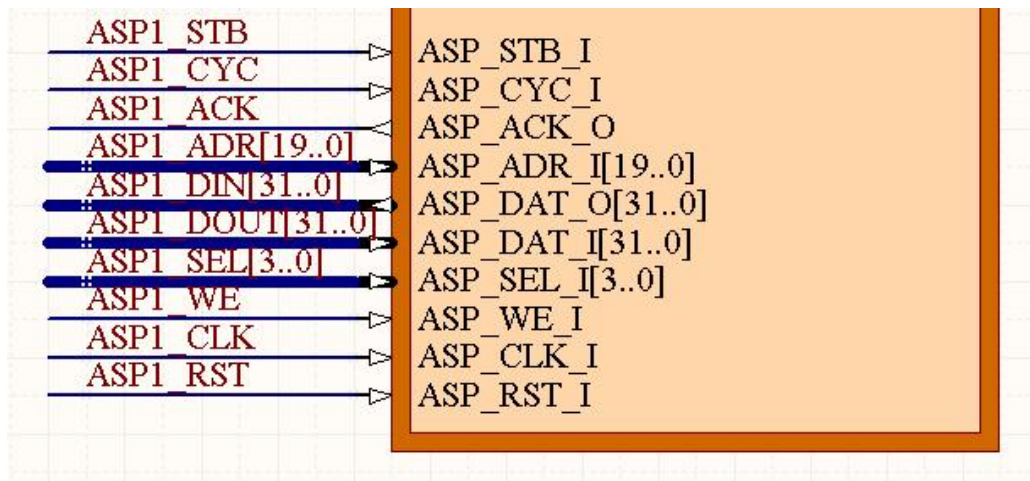
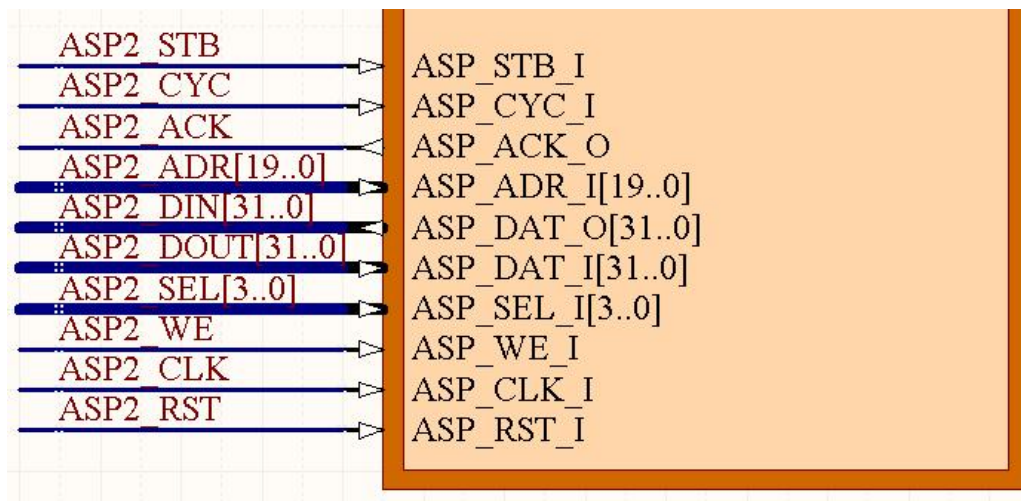

Figure 66. Updated wiring for wishbone multimaster U3
Figure 67. Updated wiring for wishbone multimaster U3
7. Wire the two components as they appear in Figure 66 and Figure 67.